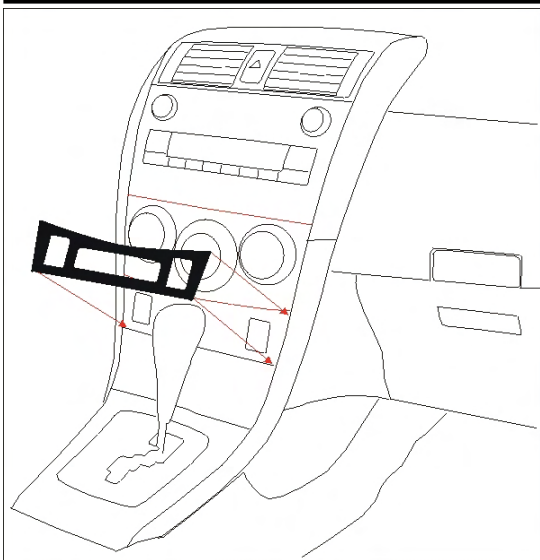

Fig. 6-1
- (b) Align part uniformly to the factory core part and power supply openings. (Fig. 6-1)